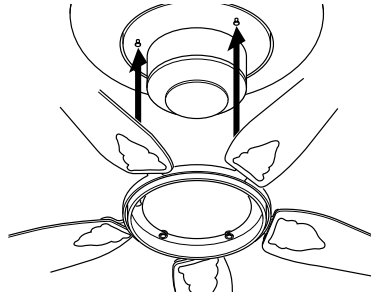

Figure 6c - Attaching Speed Ring™ to Motor
2. Lift the Speed Ring™ to the underside of the motor. Align the two grommet-and-screw combinations from the motor to the keyhole slots on the Speed Ring™ as shown in Figures 6c and 6d.